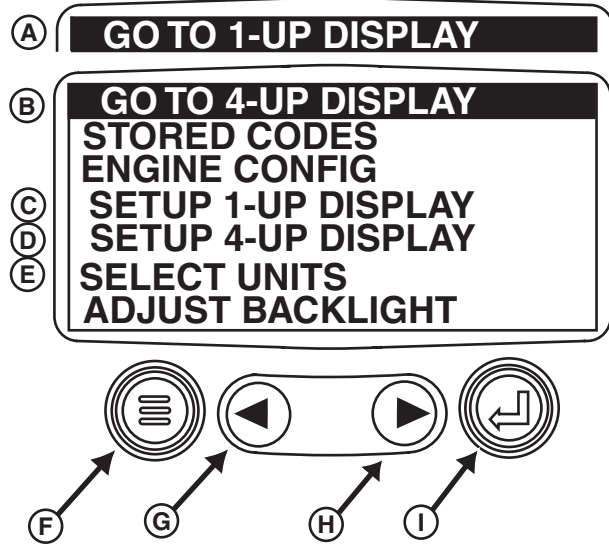

Figure 2. Main Menu.
1. Changing to the 4 parameter display. See figure 2.
- a. Press the MENU KEY (F). Main Menu is displayed.
- b. With the SCROLL KEYS (G,H), select "GO TO 4-UP DISPLAY" (B).
- c. Press the ENTER KEY (I).
- a. Press the MENU KEY (F). Main menu is displayed.
- b. Using the SCROLL KEYS (G,H), select SETUP 4-UP DISPLAY (B). Press ENTER KEY (I).
- c. In the next screen, select CUSTOM SETUP and press ENTER KEY (I). The 4-Up Display appears.
- d. With the SCROLL KEYS (G,H), select the window on the display you want to change. Press ENTER KEY (I).
- e. Scroll through the parameter list and select the parameter you want to display. Press ENTER KEY (I).